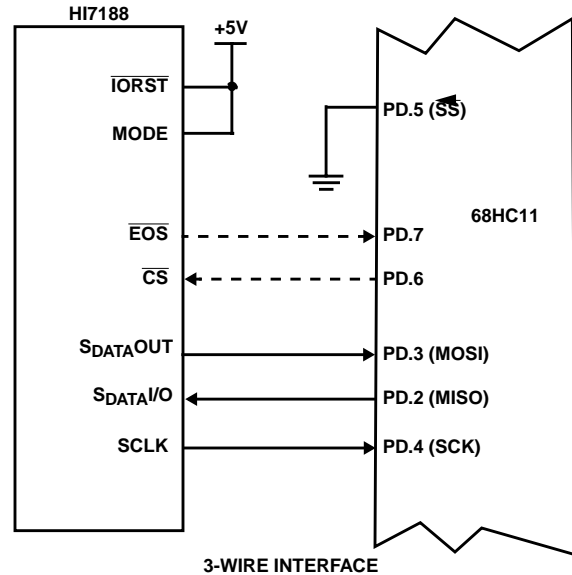

FIGURE 4. HI7188 INTERFACE TO 68HC11
or by the 68HC11. In Figure 4 the HI7188 is configured as the clock master for the SPI port. This is accomplished by pulling the HI7188 MODE pin high ('1') and grounding the 68HC11 Slave Select (SS) pin of the microcontroller. Conversely, if the microcontroller was to be the clock master then the SS line would be tied high and the MODE pin grounded. The \overline{EOS} line of the A/D converter can be monitored via an interrupt scheme or by using simple polling. The programming example uses a polled status scheme.